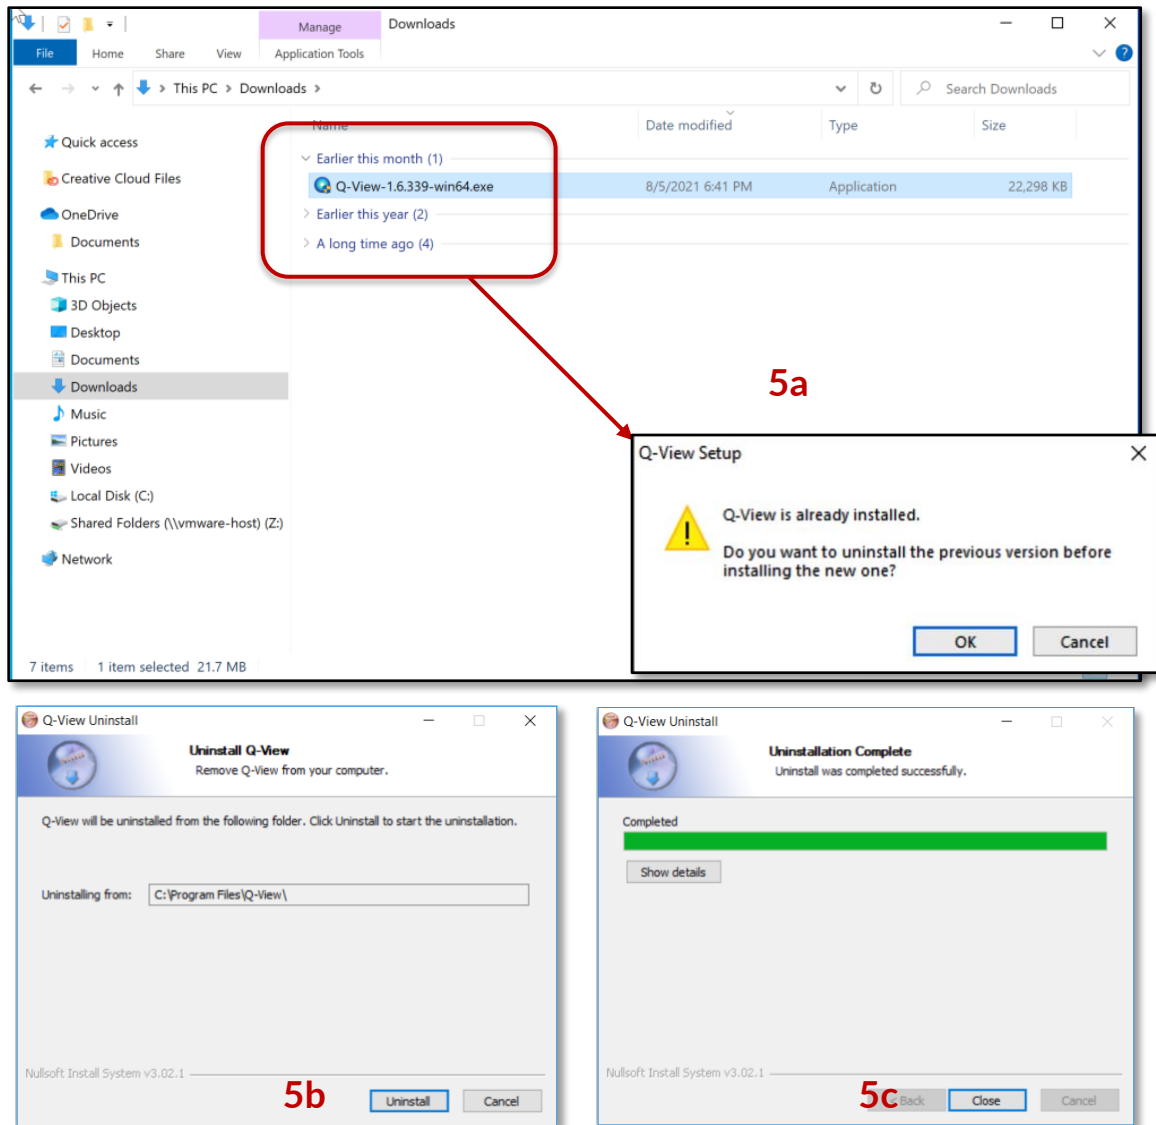

Figure 2. Windows Computer: Uninstall Old Q-View
5. Uninstall previous version of Q-View, if prompted. See *Figure 2. Windows Computer: Uninstall Old Q-View*.